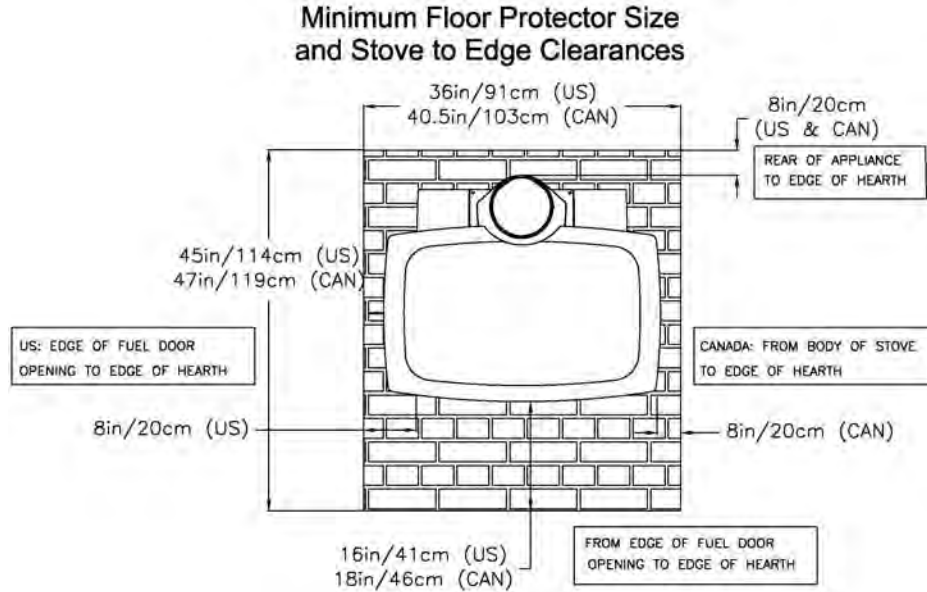

Figure 2 – 8371 Hearth Pad Dimensions
- ✎ A floor protector with an R-value of 0.8 or more purchased from your dealer. A floor protector is any noncombustible surface laid on the combustible floor underneath the stove that extends 16 inches (US) and 18 inches (CA) beyond the fuel door opening, and 8 inches (203 mm) beyond each edge of the fuel loading opening (US) or from the body of the stove (CA), and 8 inches to the rear. See figure 2 on page 9.